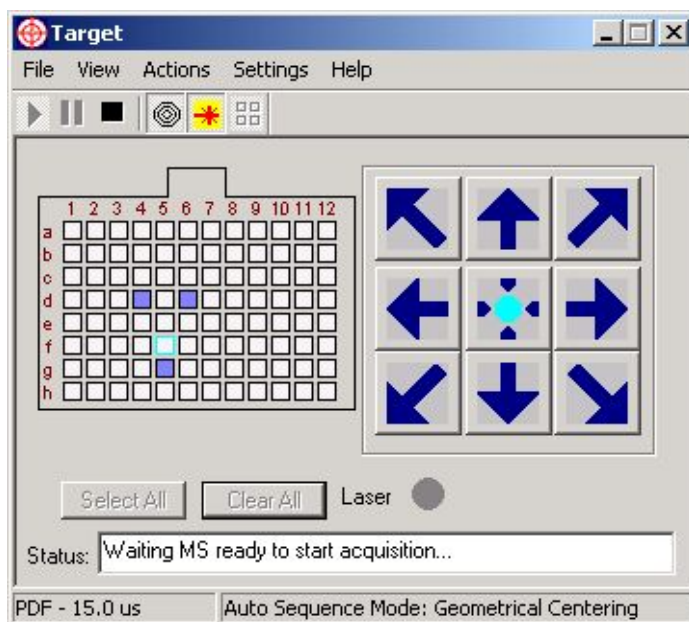

Fig. 7-37. Target program is waiting for Q-trap.
- Press “Play” button. Target program now is waiting for “MS ready” signal from Analyst software. This state is indicated in the program status window (Fig. 7-37).